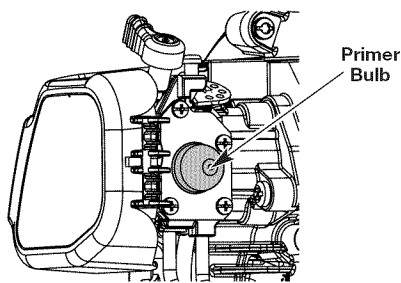

Fig. 16
3. Fully press and release the primer bulb 10 times, slowly. Some amount of fuel should be visible in the primer bulb and fuel lines (Fig. 16). If fuel can not be seen in the bulb, press and release the bulb as many times as it takes until fuel can be seen in it.
- Fully press and release the primer bulb 10 times, slowly. Some amount of fuel should be visible in the primer bulb and fuel lines (Fig. 16). If fuel can not be seen in the bulb, press and release the bulb as many times as it takes until fuel can be seen in it.